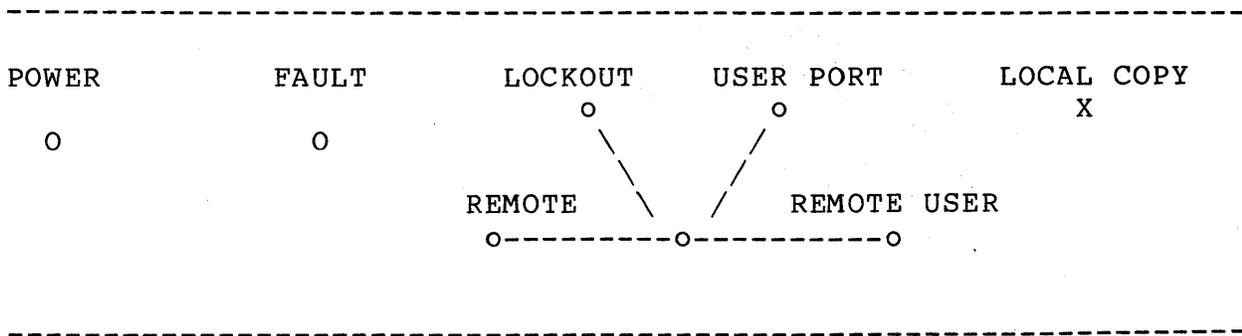

Figure 1-3 Front Panel Switch Locations
- o Set the RSC keyswitch to REMOTE USER. Figure 1-3 shows the location of the front panel switches.